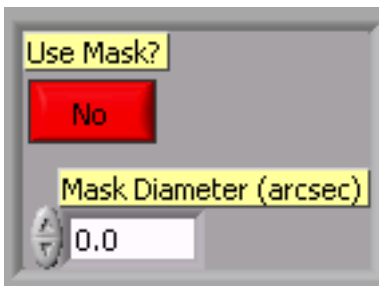

Figure 11 - Mask window
- 4) Select the **Mask** menu, turn on yes the **“Use Mask”** option (Figure 11) and choose the best **Mask Diameter**.